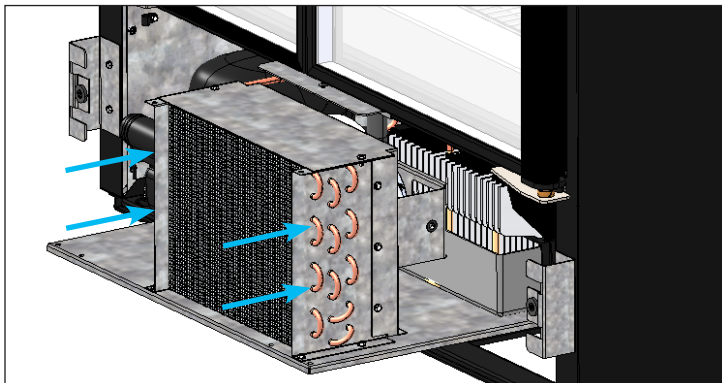

Fig. 7. Carefully slide the condensing unit back into position and replace the bolts.
9. Reinstall the coil brackets (if applicable). Then carefully slide the compressor assembly back into position and bolt it in place. See fig. 7.